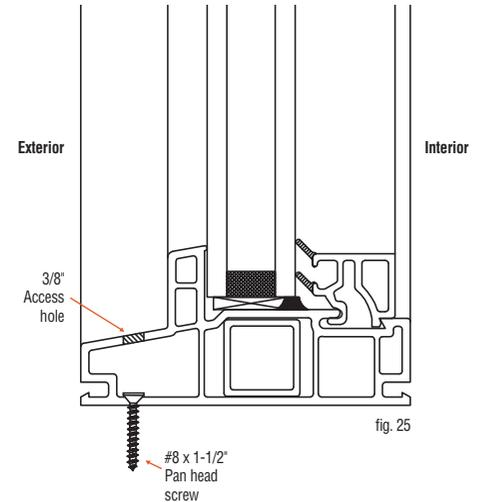

fig. 25
- From the exterior pre-drill 3/8" access holes through the outer wall of the frame as shown on **fig. 25**. Place holes 4" from each corner and then spaced evenly every 8" to 14" apart. The number of fasteners are dependent on the overall frame size.